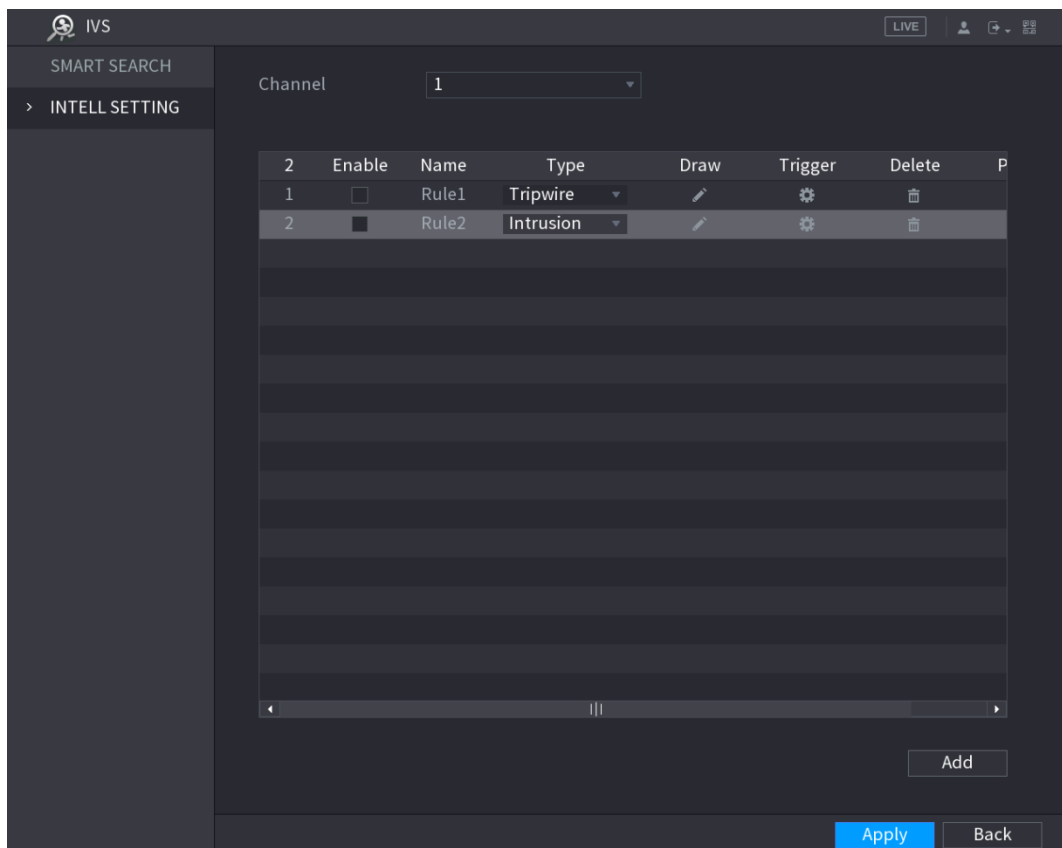

Figure 5-139
**Step 1** On the rule line that you added, in the **Type** list, select **Intrusion**. See Figure 5-139.